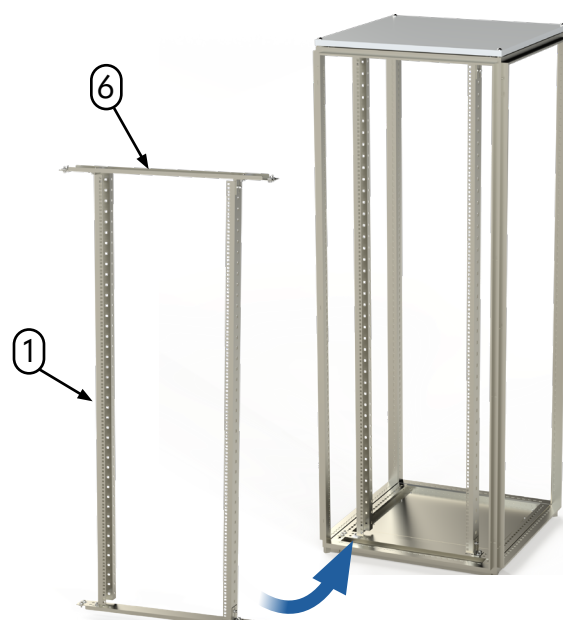

Figure 1
- The top horizontal rail is wider than the bottom to fit the single mounting rail on the OKK Top Element (Figure 1).